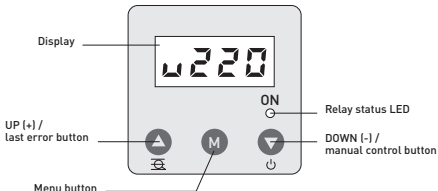

Figure 3. Control panel
To set the desired setpoints, press and hold the Menu (M) button on the front panel for 3 seconds. The buttons are located on the front panel, below the display. For control elements, refer to Figure 3.